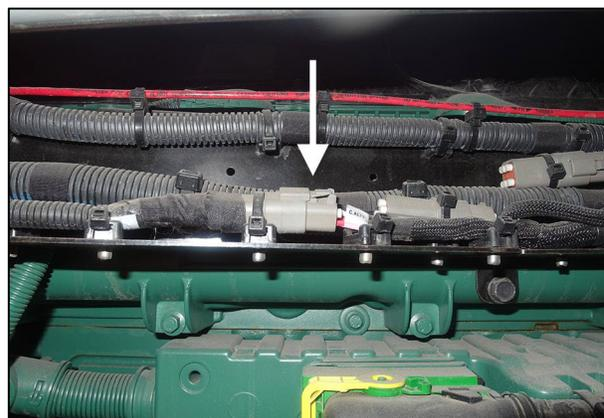

FIGURE 34
39. Route control harness up over the engine to C_ALT connector. (Figure 34)